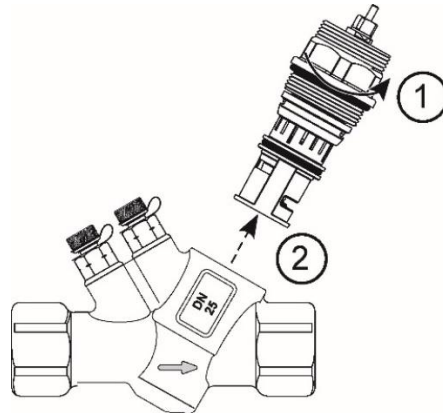

Figure 5. Removing Flow regulator from Valve body
3. Use the pipe wrench or appropriate tool to rotate Flow Regulator in counterclockwise direction to remove from the valve body. See *Figure 5*.